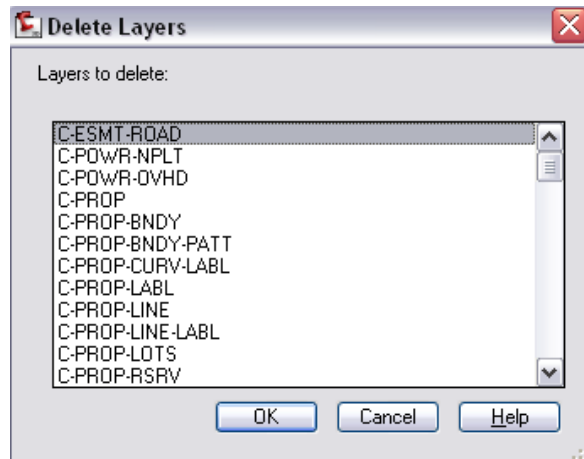

Figure 10: Select layers to delete
- 2 Select the drawing objects on the layers that you want to delete, or use the Name option to select the layers from the Delete Layers dialog box as shown in figure 10.